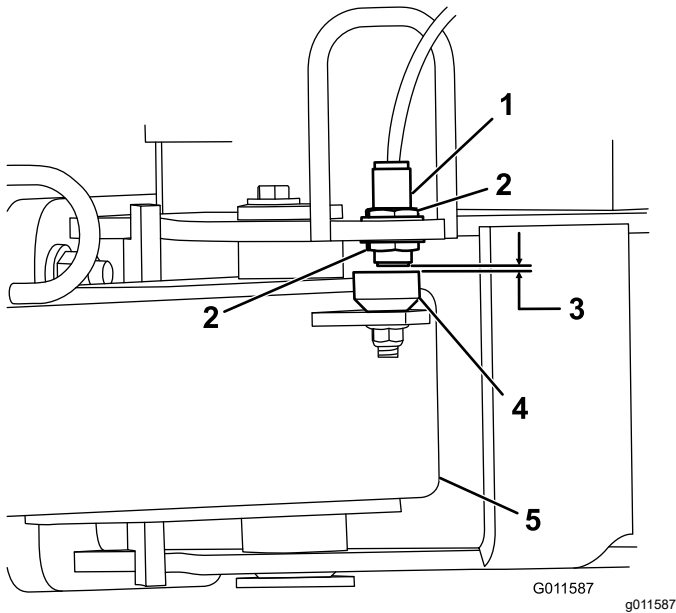

Figure 4
5. Loosen the jam nuts securing the proximity switch to the frame and lower the switch until it is 2.6 to 4.0 mm (0.10 to 0.16 inch) from the sensing plate on the hitch tongue (Figure 4). Tighten the jam nuts to secure the adjustment.